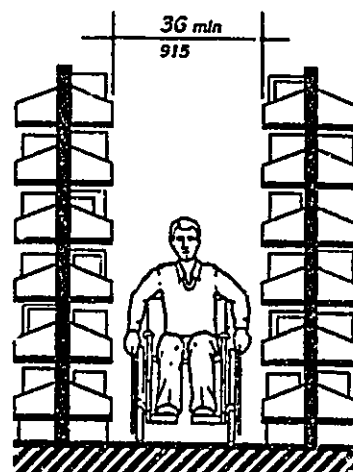

Fig. 56
8.5 Stacks. Minimum clear aisle width between stacks shall comply with 4.3, with a minimum clear aisle width of 42 in (1065 mm) preferred where possible. Shelf height in stack areas is unrestricted (see Fig. 56).